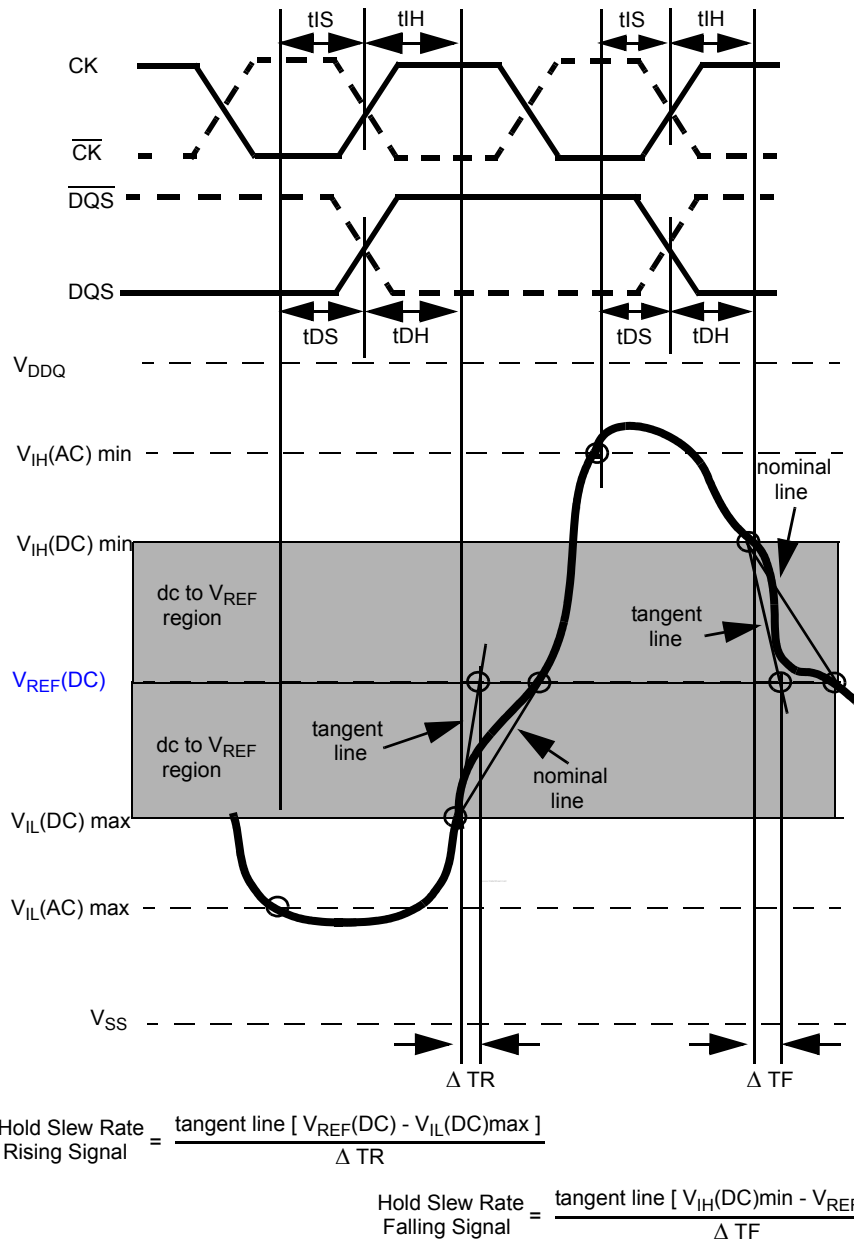

Figure 28. Illustration of tangent line for hold time t_{DH} (for DQ with respect to strobe) and t_{IH} (for ADD/CMD with respect to clock)
Hold (tDH) nominal slew rate for a rising signal is defined as the slew rate between the last crossing of V_{IL}(DC)_{max} and the first crossing of V_{REF}(DC). Hold (tDH) nominal slew rate for a falling signal is defined as the slew rate between the last crossing of V_{IH}(DC)_{min} and the first crossing of V_{REF}(DC) (see Figure). If the actual signal is always later than the nominal slew rate line between shaded 'dc level to V_{REF}(DC) region', use nominal slew rate for derating value. If the actual signal is earlier than the nominal slew rate line anywhere between shaded 'dc to V_{REF}(DC) region', the slew rate of a tangent line to the actual signal from the dc level to V_{REF}(DC) level is used for derating value (see Figure 28).